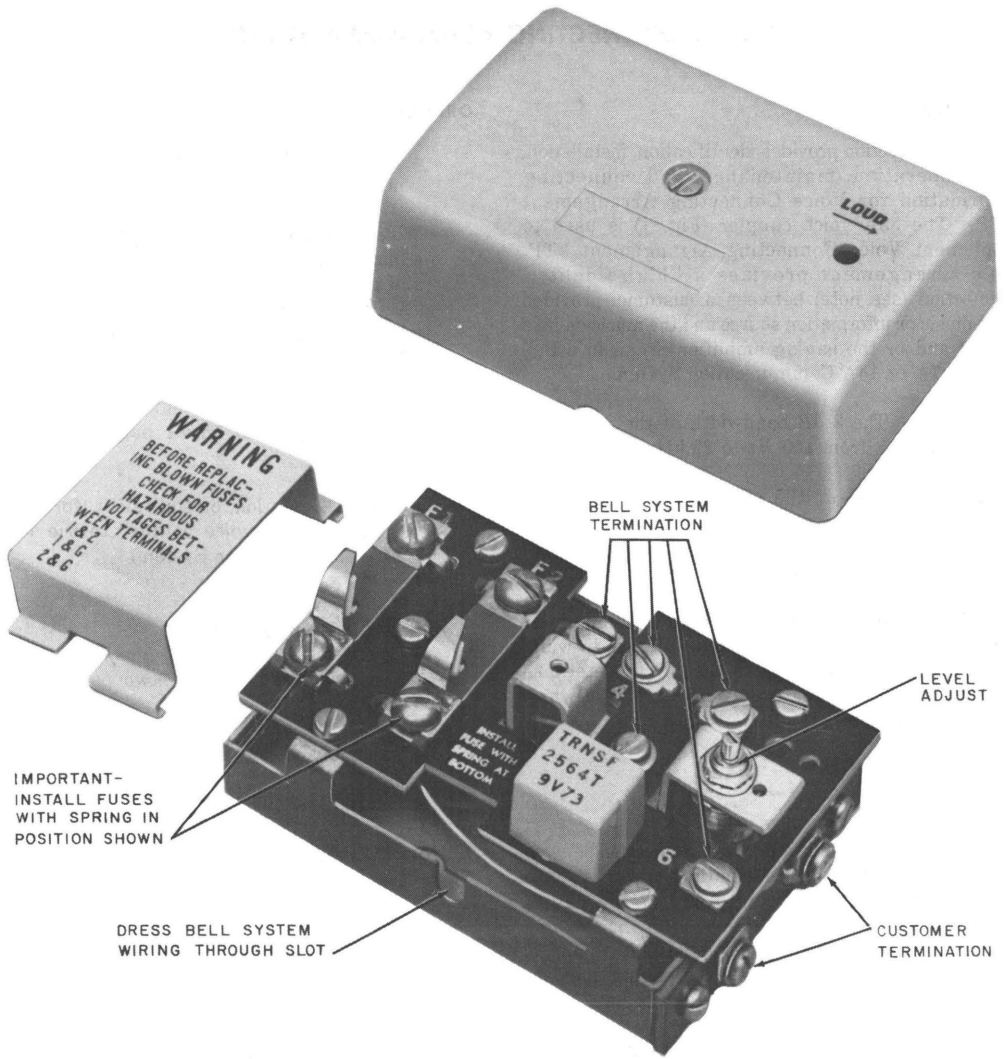
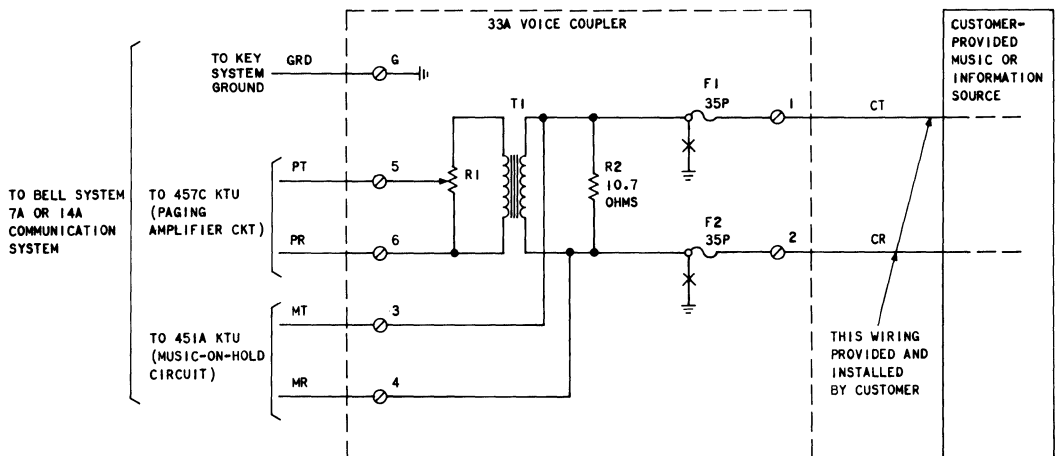

Fig. 1—33A Voice Coupler, with Cover and Fuse Guard Removed
Fig. 2—Connections—Voice Connecting Arrangement FTP
**1.01** This section provides identification, installation, operation, maintenance, and connecting information for Voice Connecting Arrangement FTP. The 33A voice coupler (Fig. 1) is used to implement Voice Connecting Arrangement FTP. This arrangement provides a "high-fidelity" connection (see note) between a customer-provided (CP) music or information source and the music-on-hold circuit and/or the paging amplifier circuit in a Bell System 7A or 14A Communication System.
- Shorts primary winding of T1 to ground when fuses blow, to protect Telephone Company equipment—see Fig. 2
**3.02** The voice coupler should be mounted as near as possible to the KSU in the 7A or 14A Communication System. If the installation is such that the distance between the CPE and the KSU is excessive, the longer leads should be the CP wiring between the CPE and the voice coupler (see Fig. 2). The length of these leads should be determined by the customer; the loop resistance of these leads should not exceed 50 ohms.
- (1) Remove the cover from the coupler.
- (2) Using two locally provided screws, mount the coupler on the designated surface. Two keyhole slots are provided in the base for mounting the coupler.
- (3) Make connections from the screw terminals on the coupler, using "G" station wiring or equivalent, to the 7A or 14A Communication System, as shown in Fig. 2. Dress the wiring through the slot in the side of the coupler—see Fig. 1.
- (4) Ascertain that the fuses are installed with the spring in the position shown in Fig. 1.
- (5) Replace cover.
- (6) Have the customer make connections from his music or information source to the screw terminals provided on the coupler.